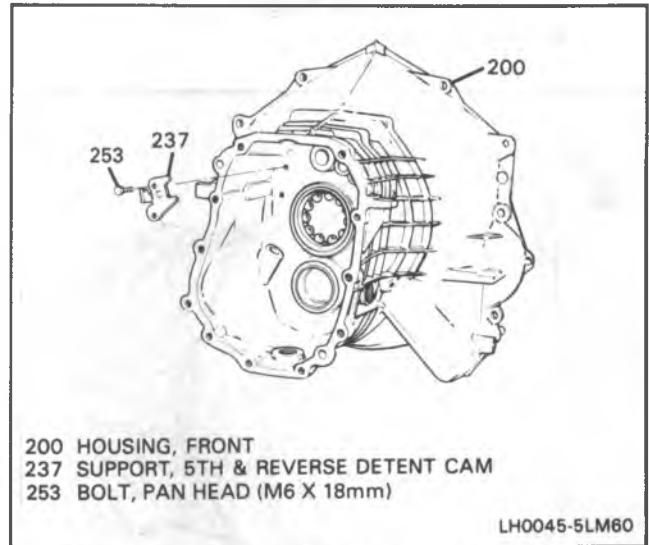
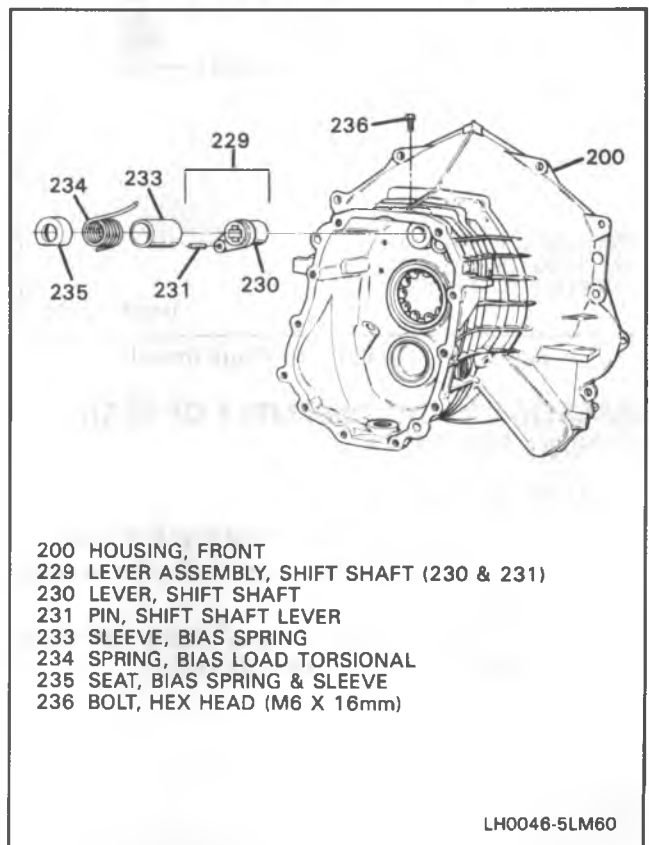

Figure 44 Detent Components Install
Figure 45 Bias Spring Components Install
7. Detent cam support (237) and bolt (236) (Figure 44).
- Bolt (236) to 8.5 N·m (76 lb. in.)
8. Shift shaft lever assembly (229) and into housing (Figure 45).